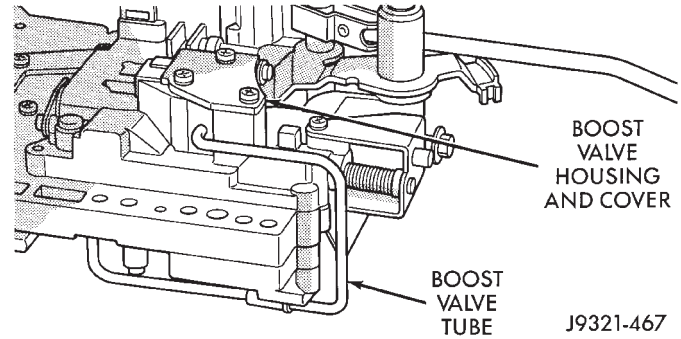

Fig. 70 Boost Valve Cover Location
(11) Remove boost valve cover (Fig. 70).